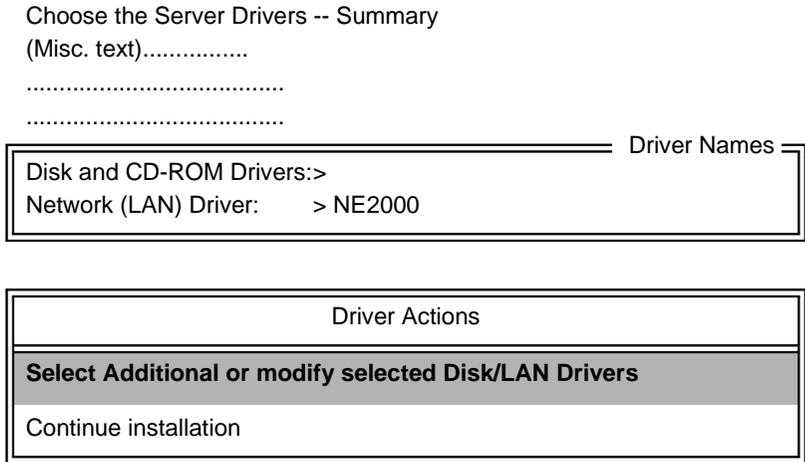

Figure 4-2. . NetWare Server Driver Selection Screen
4. Continue the installation procedure until the screen shown in Figure 4-2. is displayed.